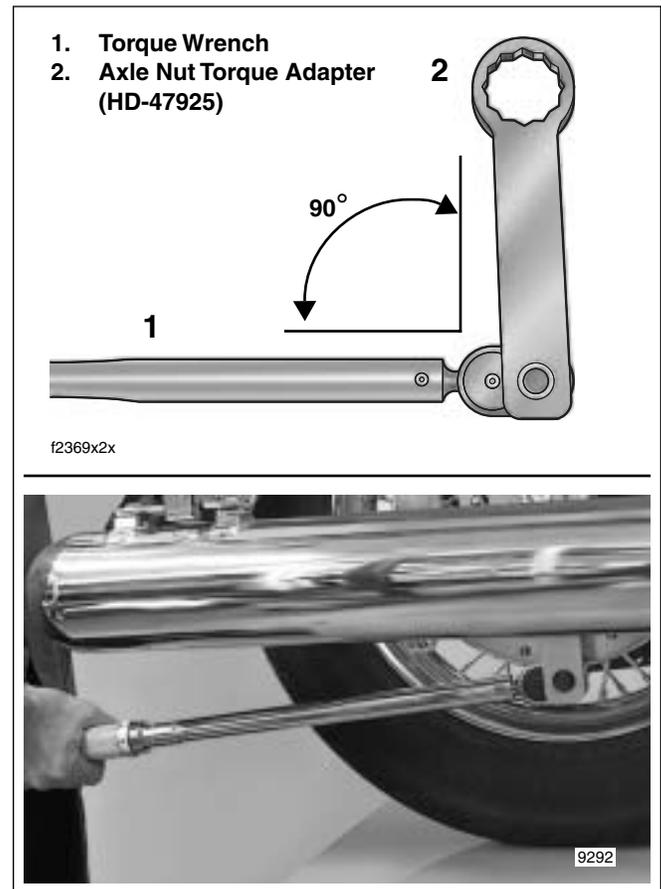

Figure 2-14. Install Tool Perpendicular to Torque Wrench
- Install torque adapter perpendicular to torque wrench as shown in Figure 2-14.